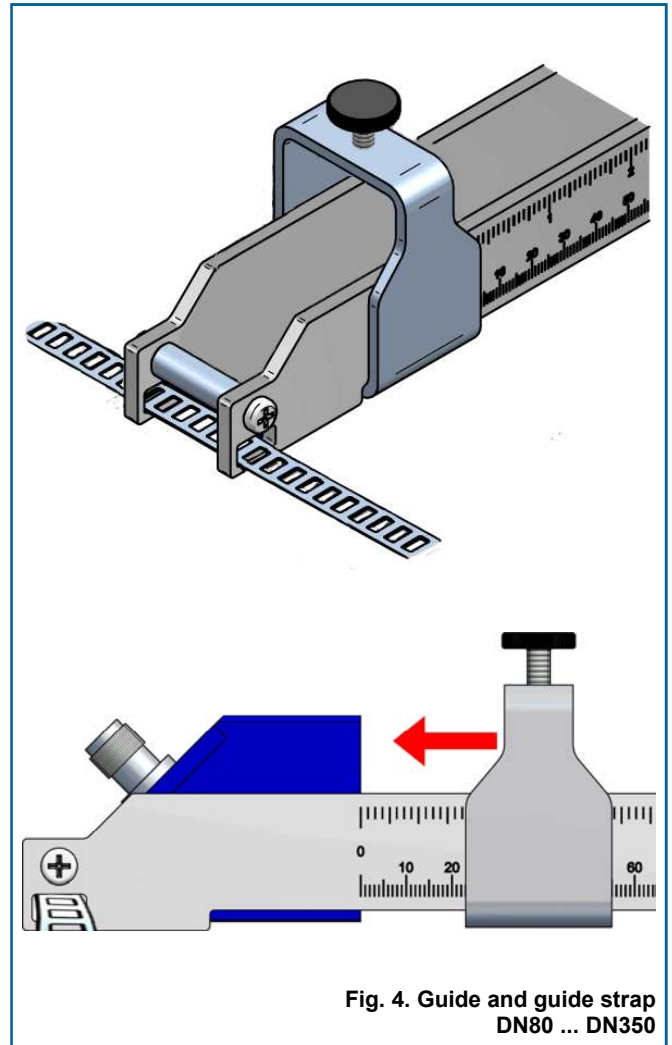
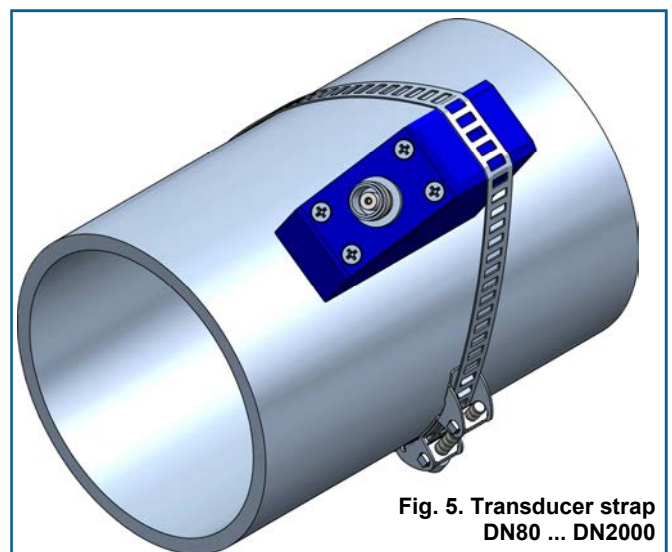

Fig. 4. Guide and guide strap DN80 ... DN350
Fig. 5. Transducer strap DN80 ... DN2000
- Pipe DN80 ... DN350: by means of graduated guide and guide straps, supplied by Tecfluid (Fig. 4), V-type installation. Optional mounting by means of transducer straps (Fig. 5).
- Pipe DN400 ... DN2000: by means of transducer straps, supplied by Tecfluid (Fig. 5), Z-type installation. For these pipe sizes, the transducers must be installed opposite each other and the guide is not available.